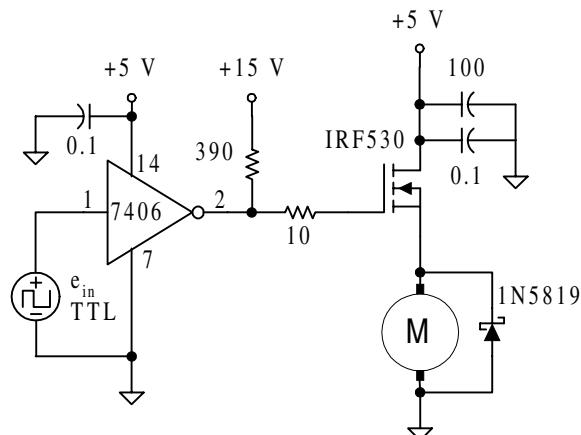

Figure 6-36 Correct *n*-channel high side switch
- Build the circuit in Figure 6-36. Although the schematic does not specifically show how, be sure to provide separate common returns for the logic, the motor, and the decoupling capacitors.